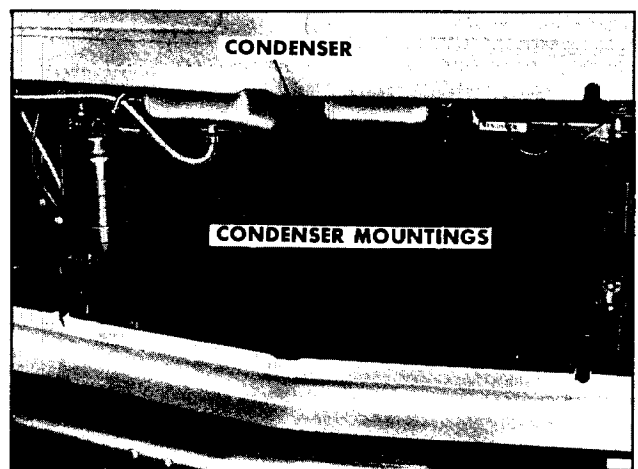

Figure 30—Condenser Mounting
6. Remove the condenser to radiator mounting screws (figure 30).